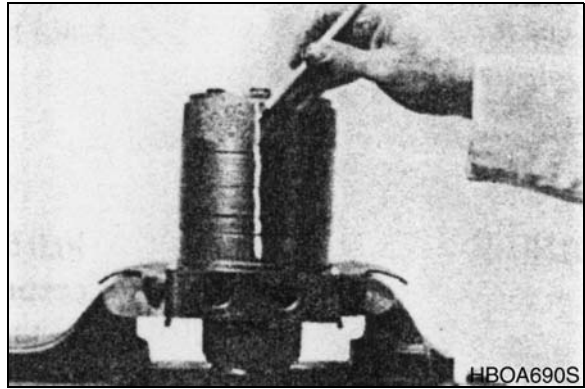
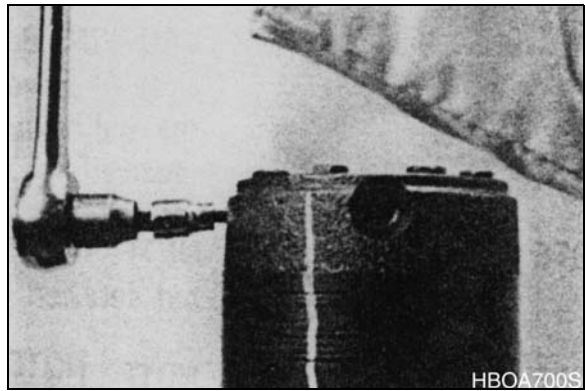

Figure 5
Figure 6
2. Scribe an alignment mark down and across the Torqmotor™ components from end cover (2) to housing (18) to facilitate reassembly orientation where required. Loosen two shuttle or relief valve plugs (21) for disassembly later if included in end cover. 3/16 or 3/8 inch allen wrench or 1 inch hex socket required. See Figure 5 and Figure 6.